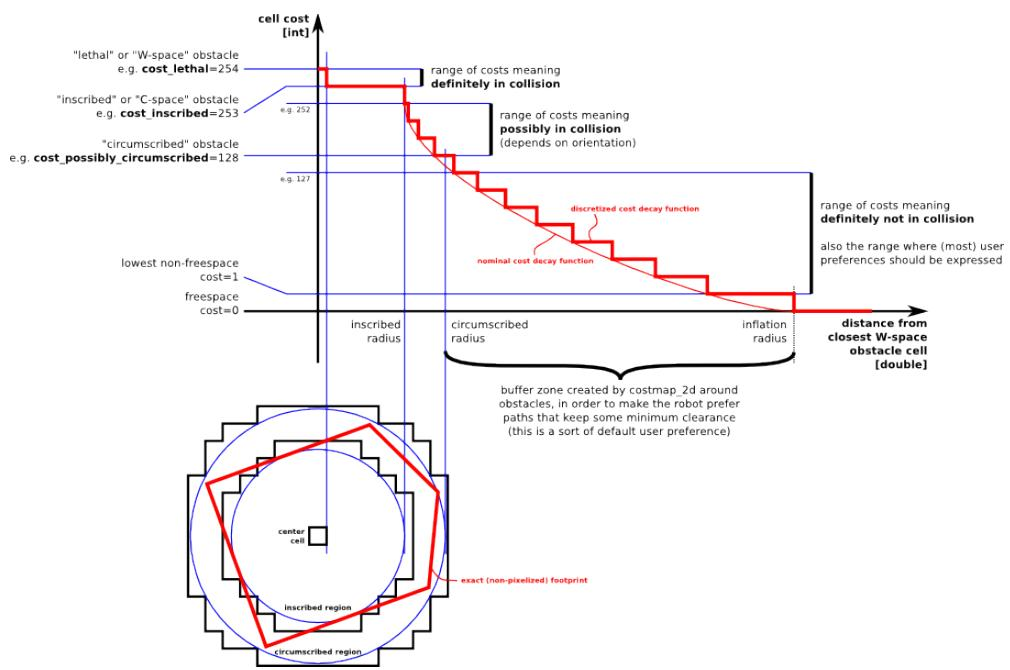

Figure 10.1: CostMap Valuation Diagram (Source: http://wiki.ros.org/costmap_2d)
- Explain the following diagram (see Figure 10.1).